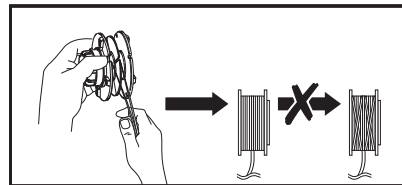

Fig. 29
6. Wind all the trimming lines firmly around the trimming spool in direction of the arrows on the trimming spool (18c) (Fig. 29).